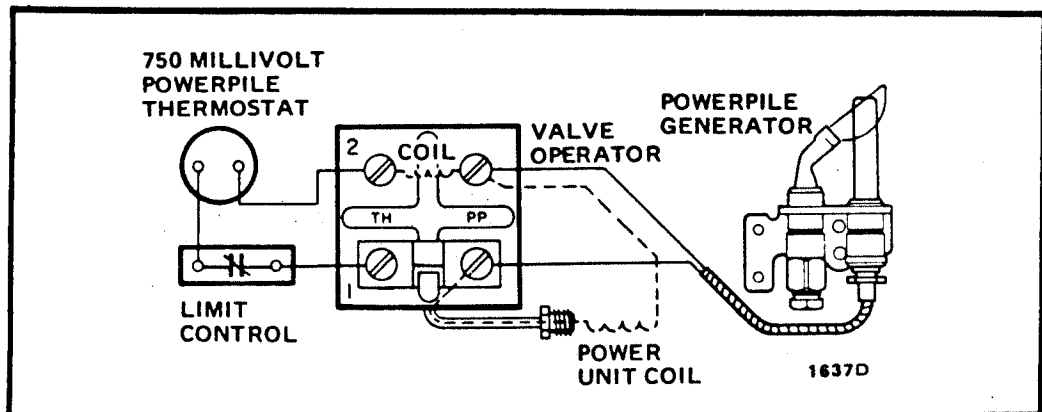

Fig. 34—Wiring Powerpile operators.
1. Install Powerpile thermostat, limit control (if required) and Powerpile generator according to the manufacturer's installation instructions (Fig. 34).